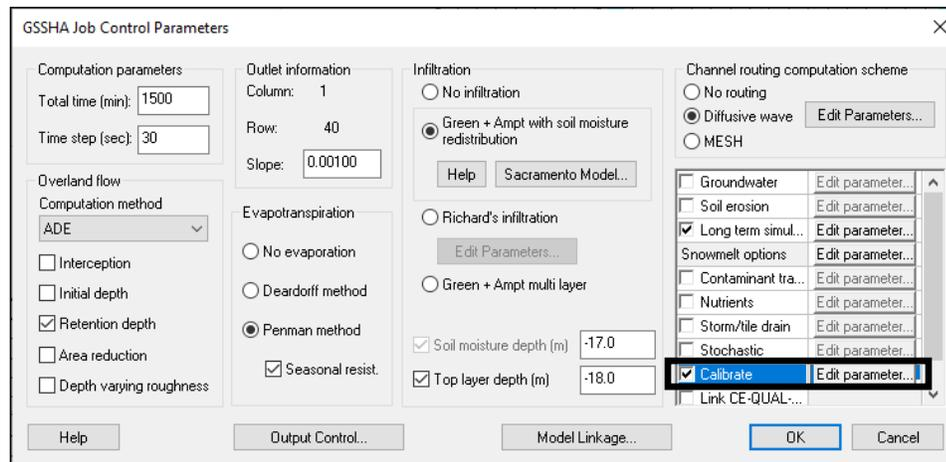

Figure 5 *GSSHA Job Control Parameters* dialog with “Calibrate” selected in right-most column.
2. On the right side, turn on “Calibrate”. (Figure 5.)